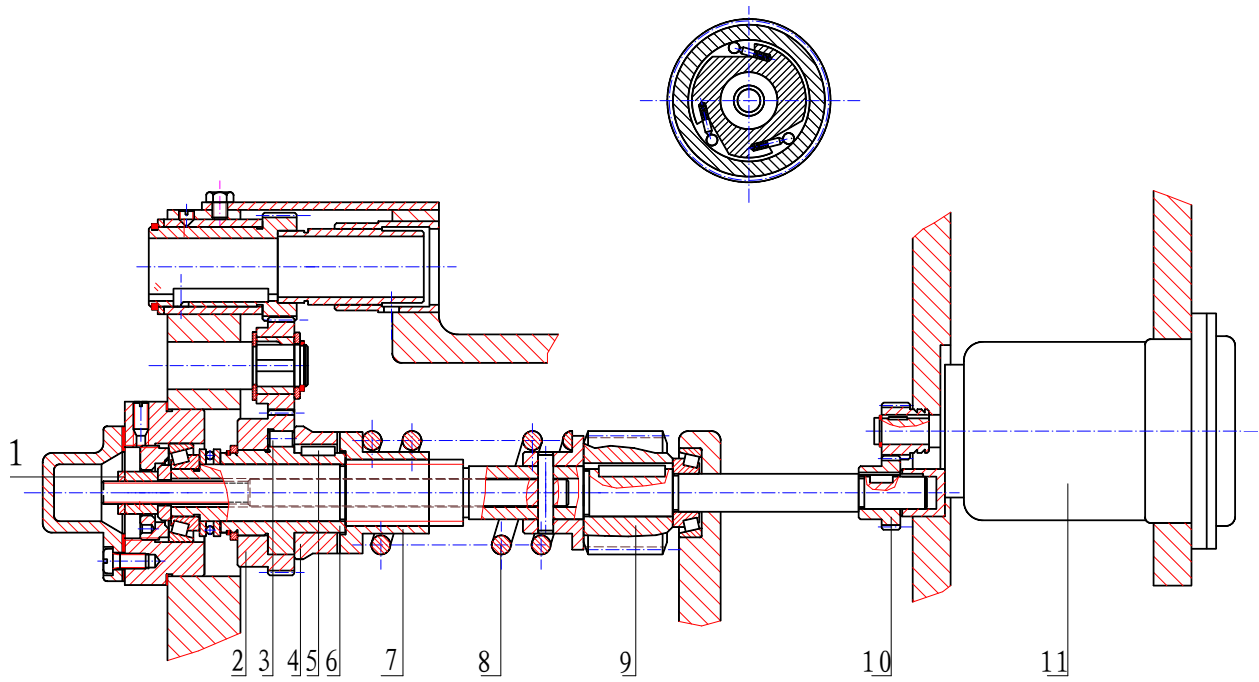

Fig. 19 Structure of overload safety clutch and single direction over-clutch
In order to guarantee that normal feed movement can be cut-off when switching on the rapid motor of the machine and that the mechanism can safely run, the front end of the safety clutch of apron is provided with an over-clutch with single direction. See fig. 19 Structure of overload safety clutch and single direction over-clutch of Chapter 7. counter-clockwise with power form feed rod, the rollers (3) being wedgedly tightened drive inner ring (5) to make the left cam (4) of safety clutch rotate. Further, make the worm (9) driving the worm wheel feed mechanism rotating. After the rapid motor is started, the worm (9) rotates counter-clockwise through the sear (10). Because the inner ring (5) of the over-clutch with single direction rotates faster than the outer circle (2) of it in this time, the rollers (3) being wedgedly tightened is released to make the inner outer rings no relation with each other and them rotating separately. The power cannot be transmitted from the feed rod to realize protection to rapid speed. When the rapid motor stops the outer ring rotates faster than the inner ring, the rollers is wedgedly tightened again to recover normal feed action.